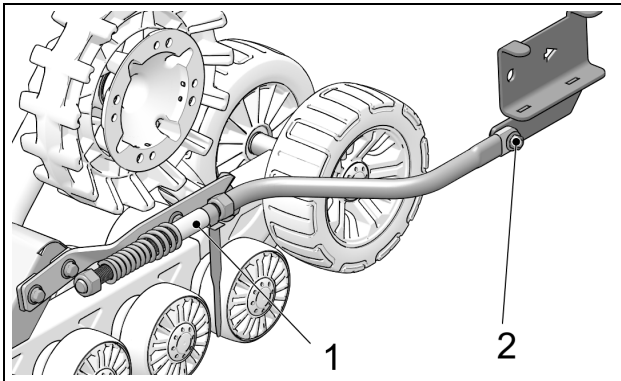

Figure 10
- Stabilizing arm (1) must be attached to Track System and to rear anchor bracket (2) installed on vehicle. See Figure 10.